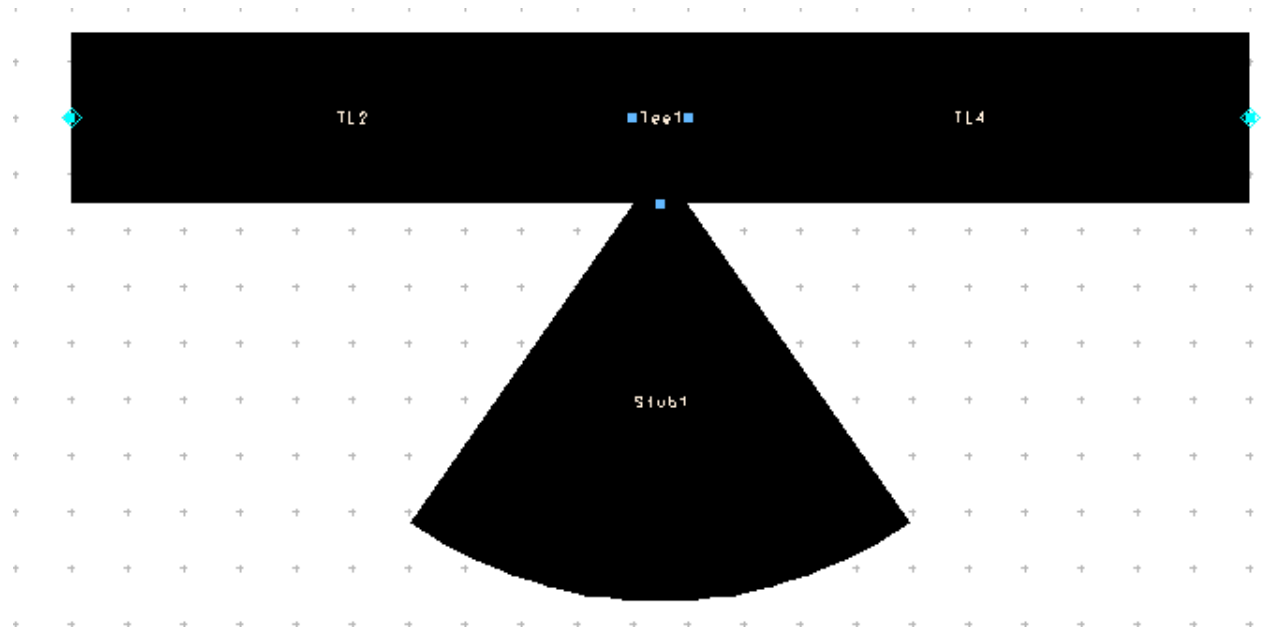

Figure 3. Layout that is automatically generated using schematic capture (after removal of the Term elements and associated pins).
- 5) At this point, the layout window should be opened (if not you can do this manually) and you should see a representation of the circuit (Figure 3).